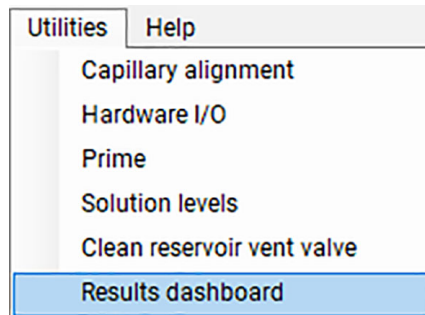

Figure 96 Utilities menu
- 1 From the **Utilities** drop-down menu, select **Results dashboard** (Figure 96).